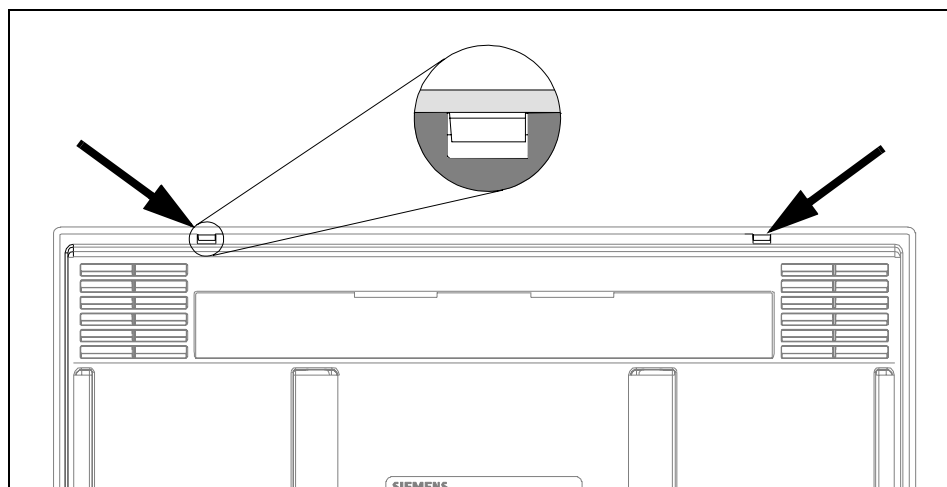

Fig. 3-6 Front Panel Latch Release Slots on Top of Monitor
- 4) Insert tip of small screwdriver into each of two release slots on top of monitor (see inset in Fig. 3-6), as you apply a slight tension between front panel subassembly and rear housing, to disengage locking tabs and slightly separate top of front panel subassembly from rear housing.